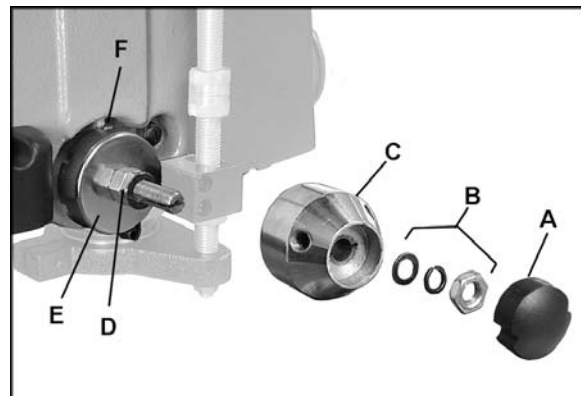

Figure 20
Referring to Figure 20:
2. Pry off the cap (A, Figure 20) and remove the hex nut and two washers (B). Pull off the hub (C).
3. Loosen the two inner hex nuts (D) *Do not remove*.
4. Pull out slightly the coil spring cover (E) while firmly holding it. **DO NOT allow the coil spring cover to turn freely in your hand, or the spring will unwind.**
5. Rotate the coil spring cover until the tab (F) on the spring retainer engages the next notch in the coil spring cover. Rotate the coil spring cover counterclockwise to increase spring tension, clockwise to decrease.
6. Make sure the coil spring cover is pushed back in, then tighten the two hex nuts (D). Do not over tighten. The hex nuts should be tightened against each other.
The quill return spring should receive SAE 20 oil once yearly. Apply the oil beneath the coil spring cover (E, Figure 20) using a squirt can.